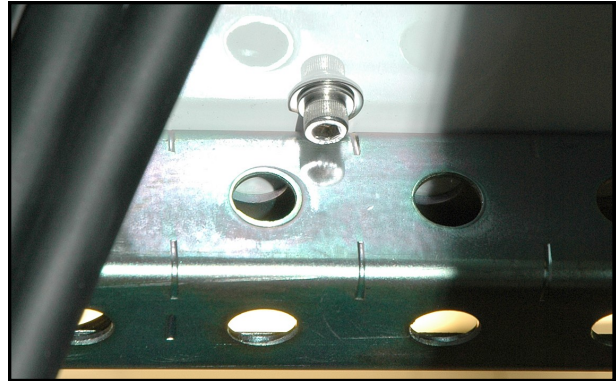

Figure 2-14: Bolt Down AC Box
Insert two (2) 1/4-20 x 1/2 socket head cap screws, flat washers and lock washers through the underside of the system's top cover (just behind the uni-strut) and into the AC Distribution Box. See **Figure 2-14**.